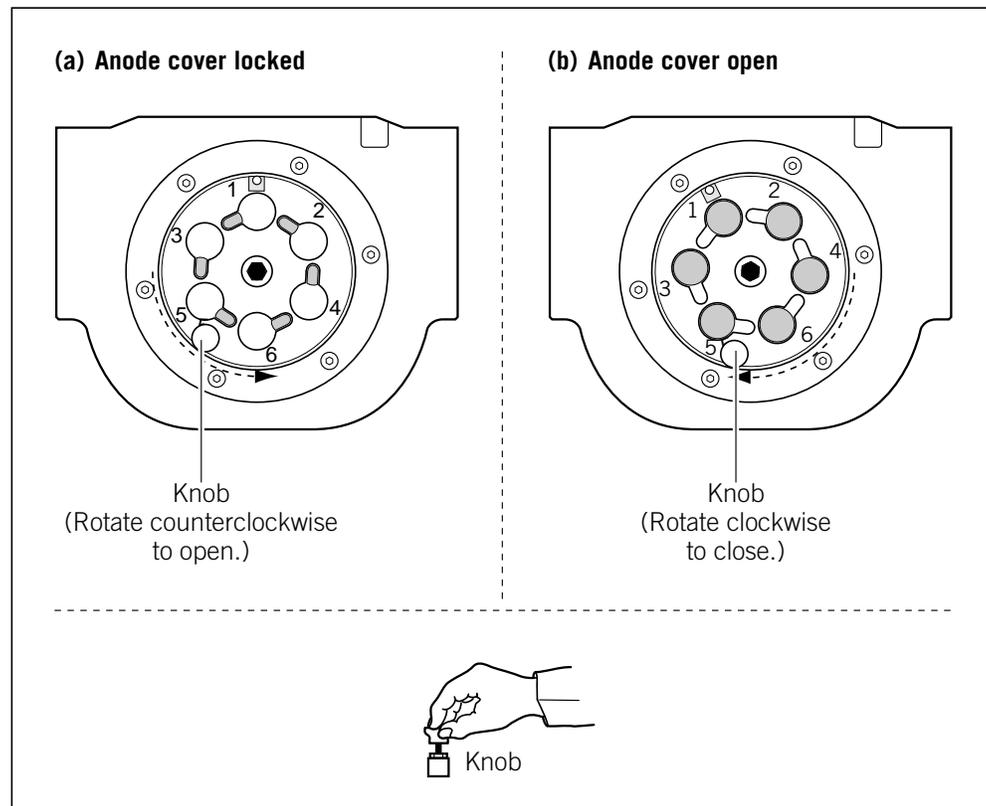

Figure 19-7. The anode cover (top view): (a) cover locked and (b) cover open.
3. Grasp the number 6 window holder and the handle of the corresponding anode plug (see numbering in figure 19-7). First pull up on the plug and then the window holder to free the array from the window holder platform and the anode cover.